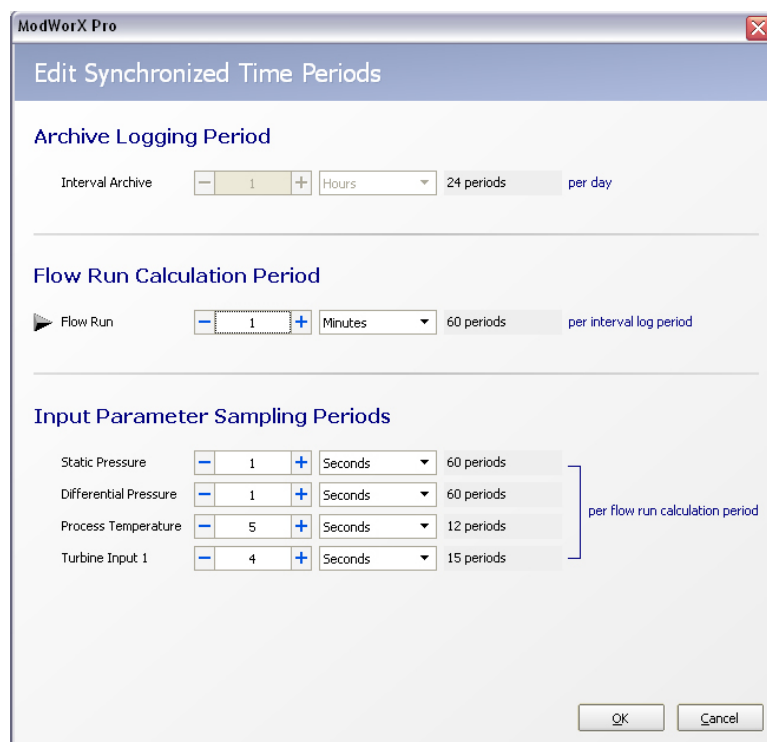

Figure 4.5
4. Under Calculation Parameters, click **Edit** to change the frequency of flow rate calculations. The Edit Synchronized Time Periods dialog will appear and an arrow will point to the flowrun calculation period setting (Figure 4.5, page 56). The flowrun calculation period is the time period from one flow rate and volume calculation to the next. Increasing this period decreases the power consumption for the device.